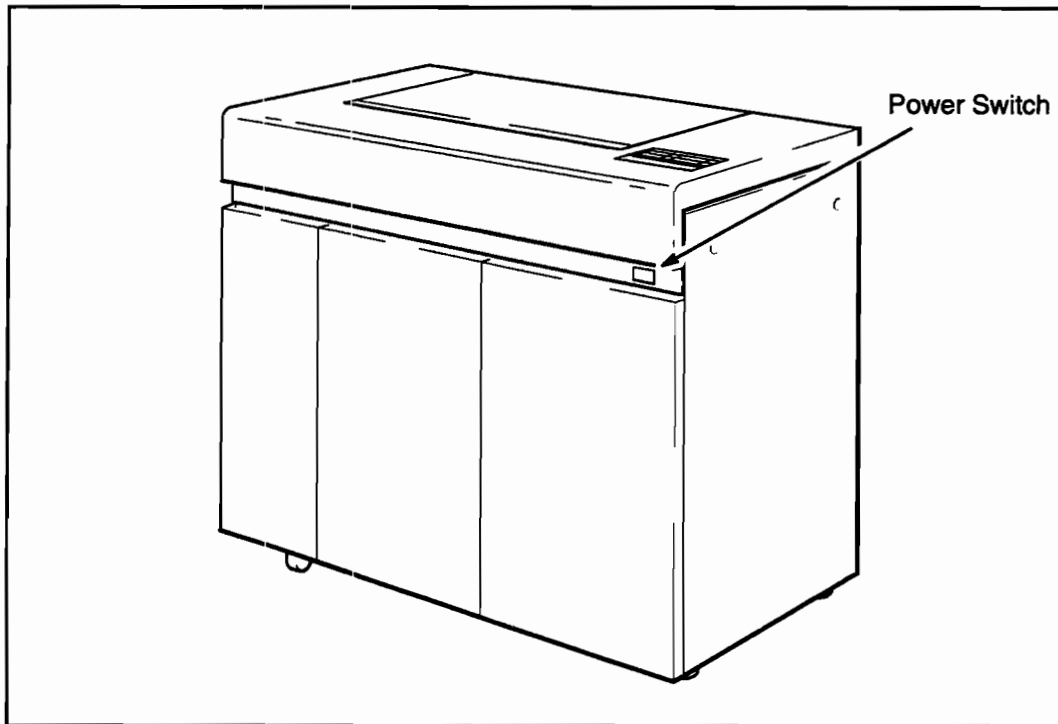

Figure 3-47. Location of Power Switch (Model 240D/E)
5. Switch on the power by pressing the end of the power switch (PSW1) marked I. See Figure 3-47 for the location of the power switch.